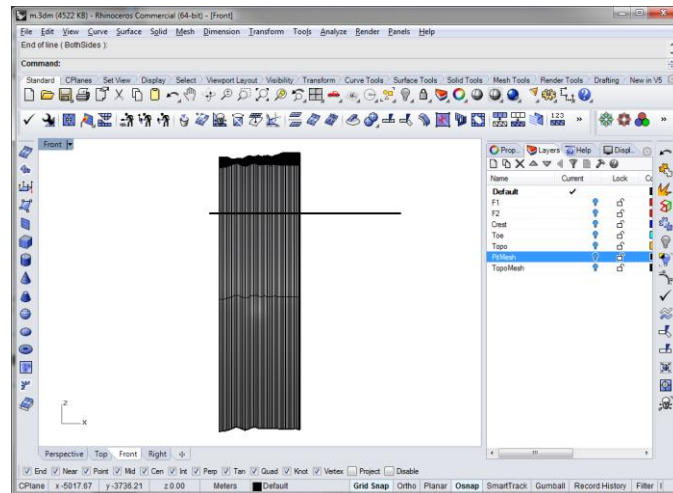

Figure 155: Creating a horizontal trimming line.
1. **Delete** the TopoMesh boundary **curve**. Select the **Front View**, and click on the **Zoom Extents**. **Curve|Line|Single Line**, enter **-400,-500** for the first point of the line. Then, **hold** down **<SHIFT>**, and click somewhere far right of the window to create a perfectly **horizontal** line (Figure 155).